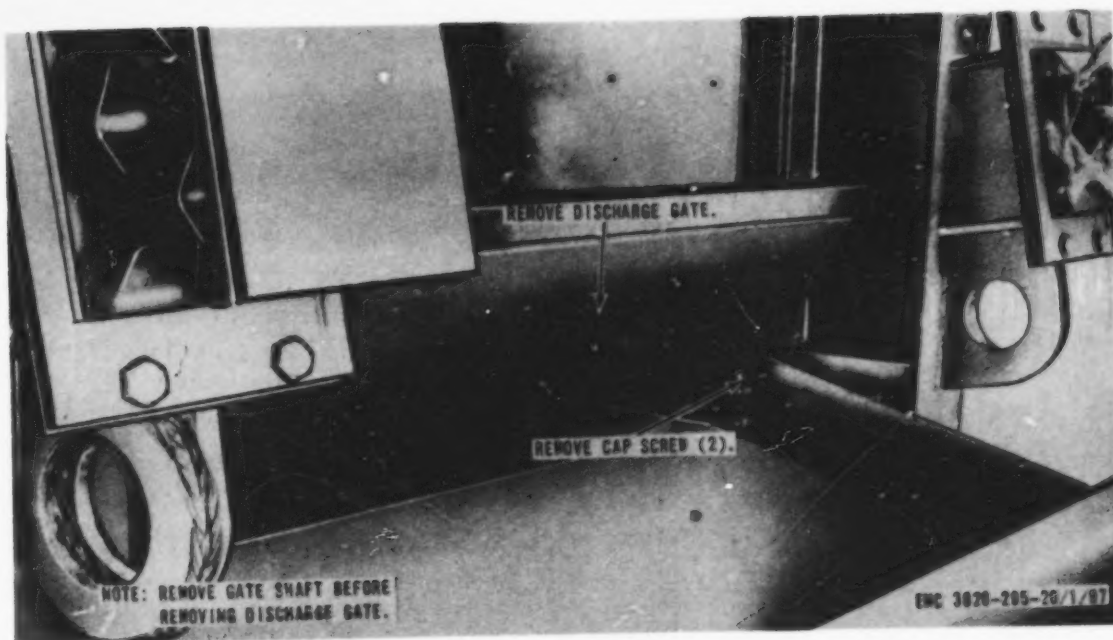

Figure 103. Discharge gate, removal and installation.
a. Removal. Remove the discharge gate from the unit as instructed on figure 103.
c. Installation. Install the discharge gate on the unit in reverse of the instructions on figure 103.